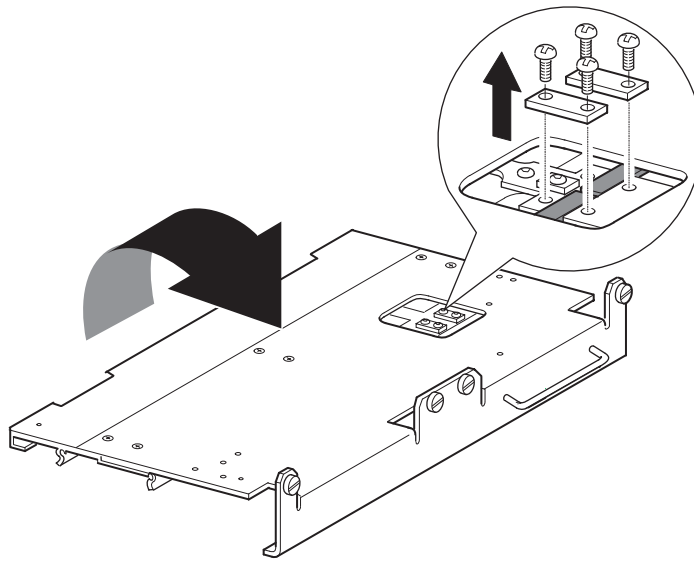

Figure 73. Cartridge elevator belt block and brackets
5. Remove the four mounting screws from the two belt block brackets as shown in Figure 73.